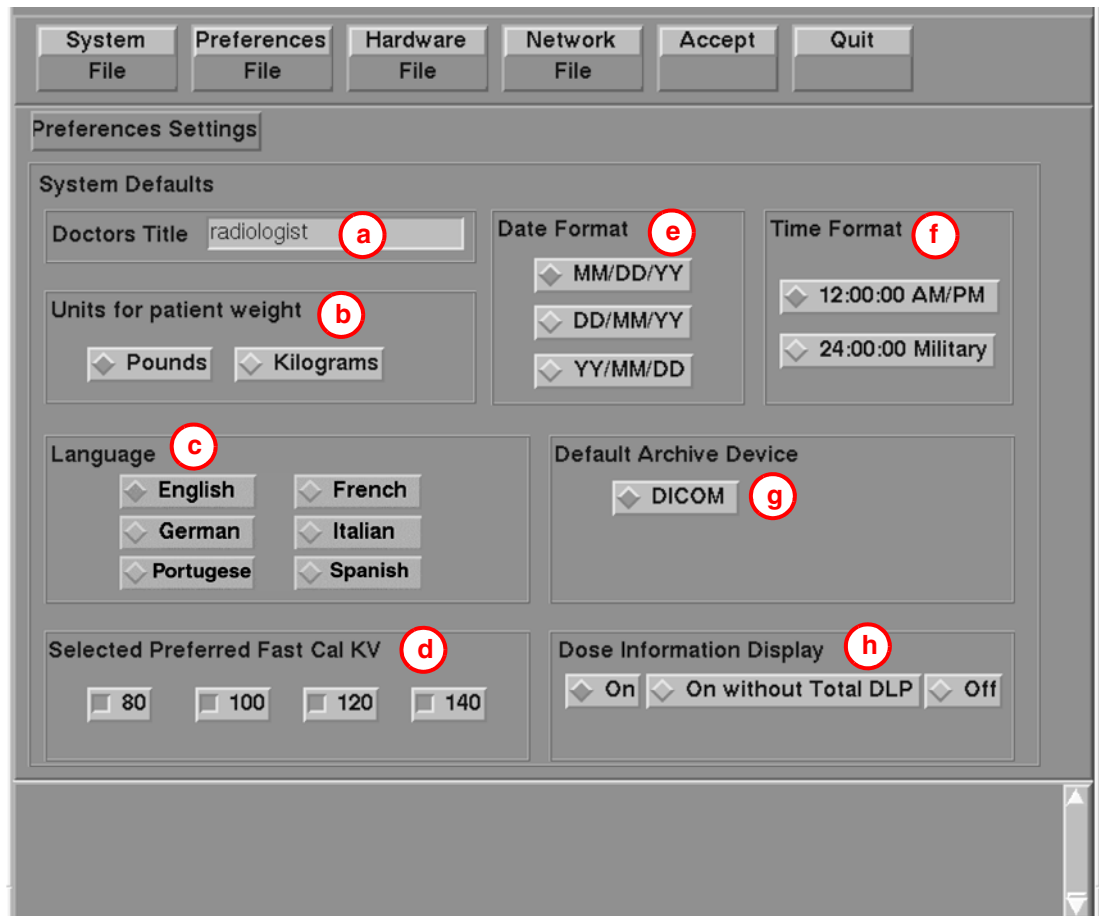

Figure 6-14 Preferences Setup Screen
- 5.) Select the PREFERENCES button to display the Preference Settings Screen as shown in Figure 6-14.
- 7.) Select the HARDWARE button (see Figure 6-14) to display the Hardware Settings Screen (see Figure 6-15).